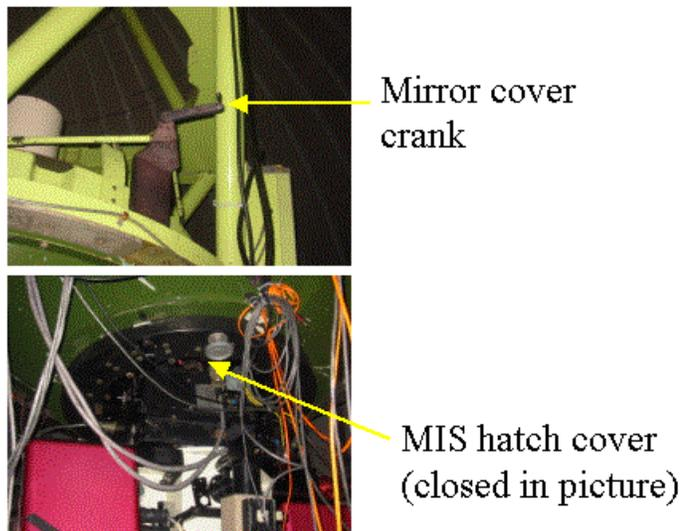

Figure 5. Open the mirror cover by turning the mirror cover crank (top). Open the MIS box hatch shutter (bottom).
2. Refer to Figure 5 (below). Open the mirror cover. You will need a ladder to reach the mirror crank, which is in the northwest corner of the telescope (refer to diagram below). This makes a loud noise when it opens, so you'll have no doubt about it). Be sure to move the ladder back to its stow position when you are done.